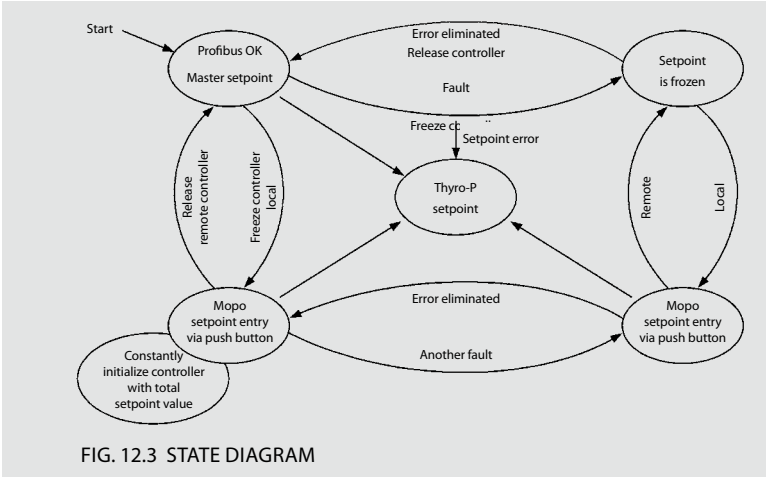

FIG. 12.3 STATE DIAGRAM
3. When switching from local to remote the process controller must be initialized with the total setpoint value and then activated. The following flow-chart represents the above settings (see Fig. 12.3).